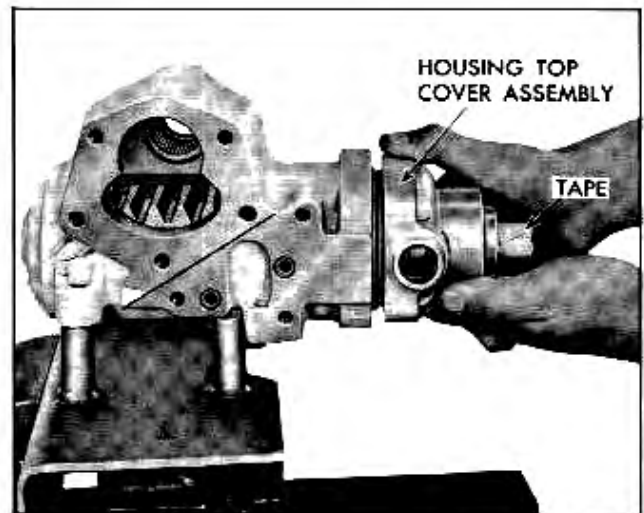

Fig. 9-34 Removing Top Cover from Gear Housing
2. Remove cover bolts and pull assembly off gear housing. (Fig 9-34).